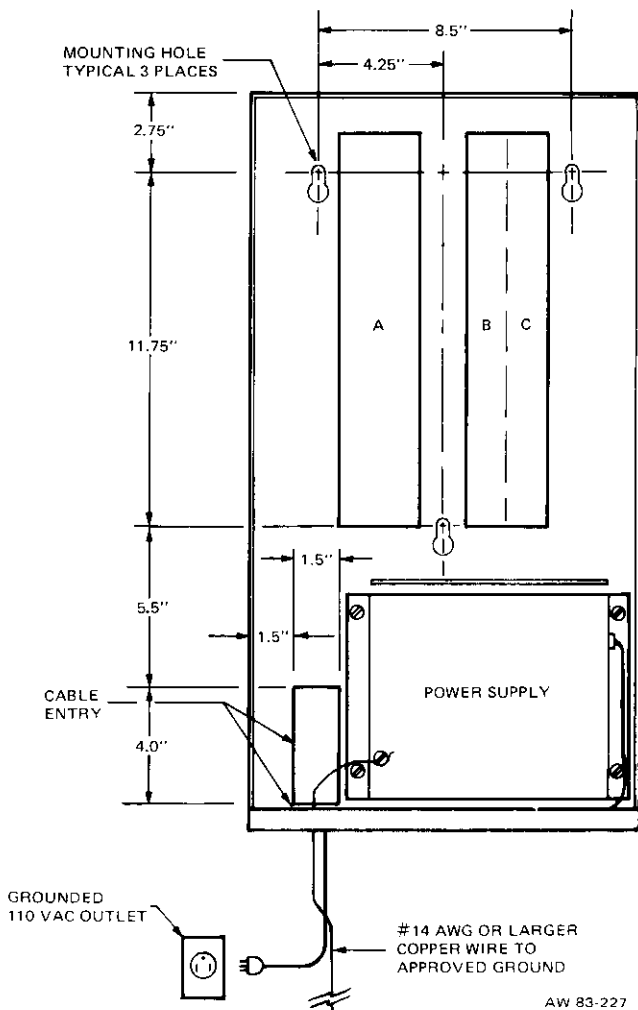

Figure 4: Mounting and Grounding the KSU
4.03 Use lag screws or the equivalent to mount the KSU on the wall or MDF backboard. Measure and mark the center of each hole. Drill the pilot holes, then insert and partially tighten each screw. Slip the KSU over the mounting screws, then tighten each screw. Typical mounting dimensions for a floor-mounting model are shown in Figure 4.